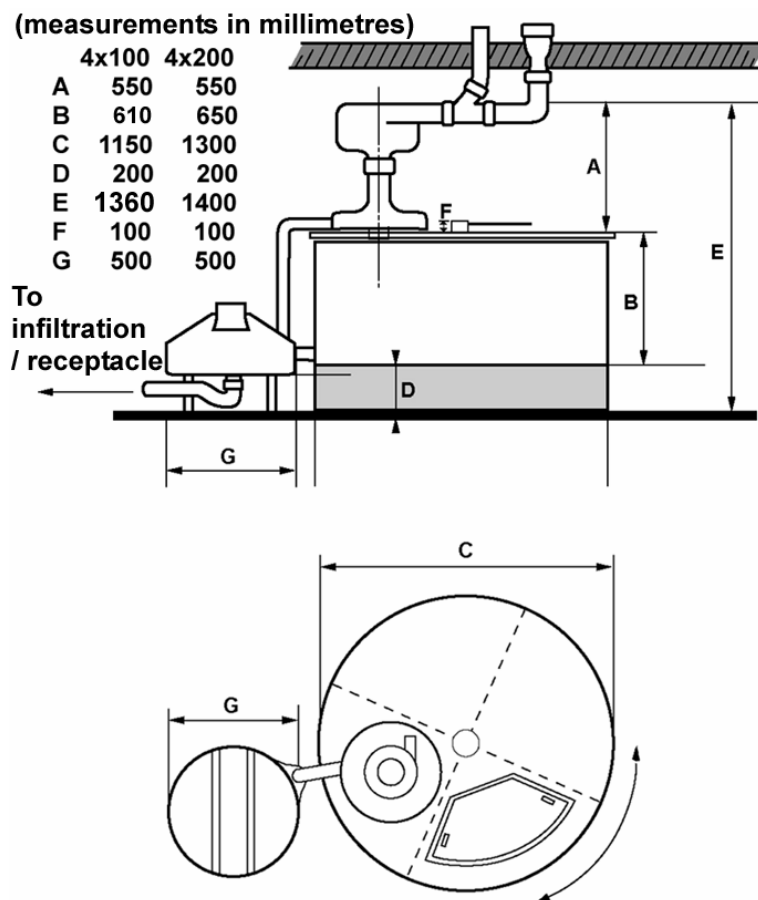

Figure 1: Aquatron 4x100 / 4x200 installation measurements
- 4.1.1 Build a platform for the Bio Chamber. For measurements see Figure 1, for overview, see Figure 2. For platform, see Figure 3. Place the Bio Chamber steadily on the platform.
- 4.3.3 The 2" Waterseal should be installed underneath the UV unit, see Figures 1 and 2.
- 4.5.5 If there is a large level difference between the WC-outlet and the Separator, then first install the horizontal pipe pitched at the specified angle, and then make the necessary level adjustment with the vertical pipe, see Figure 1.